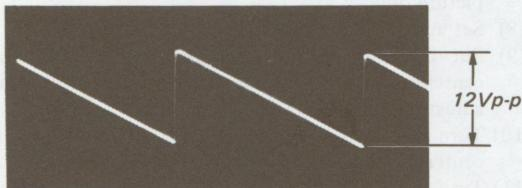

Fig. 5-111.
- (1) Connect the oscilloscope probe to TP 1 on the D (DA) board.
- (2) Adjust RV13 on the DA board so that the V. LAMP waveform is 12 Vp-p. (See Fig. 5-111.)